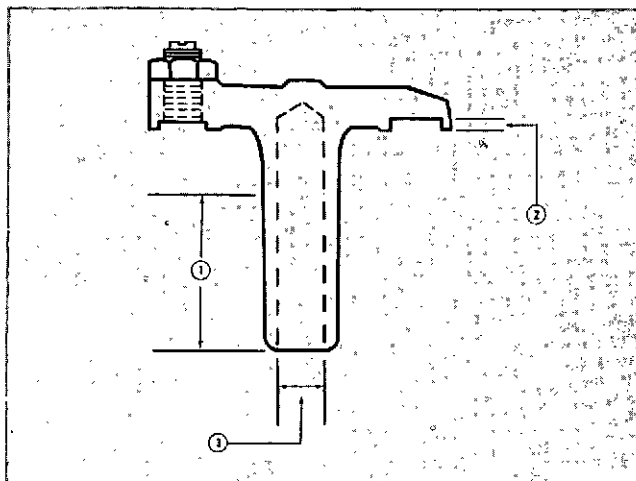

Fig. 2-4-3, V40236. Crosshead dimensions
3. With accurate micrometers, set a small bore gauge (such as Starret No. 829-D) 0.0002 inch [0.0050 mm] above worn replacement limit. Use as a "No-Go" gauge in crosshead bore (3, Fig. 2-4-3) to check for wear beyond worn replacement limits shown in Table 2-4-1. Check for out-of-round holes.
5. Check reamed depth of crosshead bore (1, Fig. 2-4-3); it should be a minimum of 1.000 inch [25.4000 mm] in depth.
6. Check valve stem counterbore depth in underside of crosshead (2); dimensions should be 0.120 to 0.140 inch [3.0480 to 3.5560 mm].